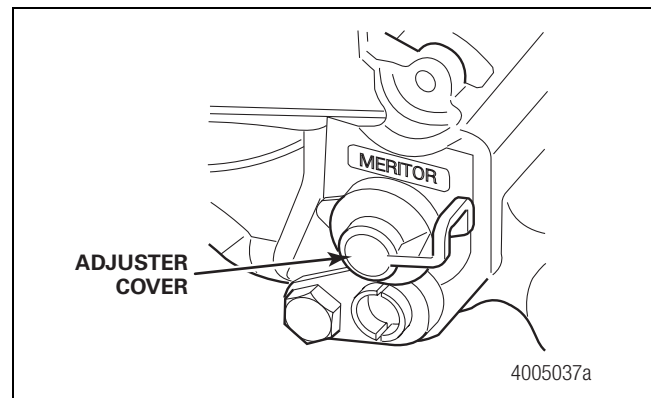

Figure 4.18
- Remove the adjuster cover. Figure 4.18.